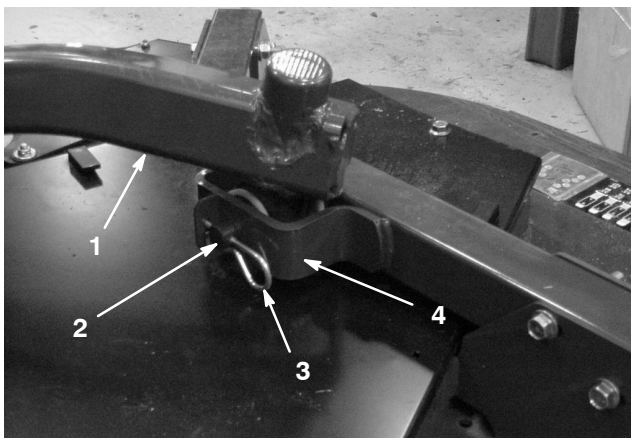

Figure 27
4. Remove the hair pin cotters and clevis pins securing the lift arms to the castor arm brackets (Fig. 27).